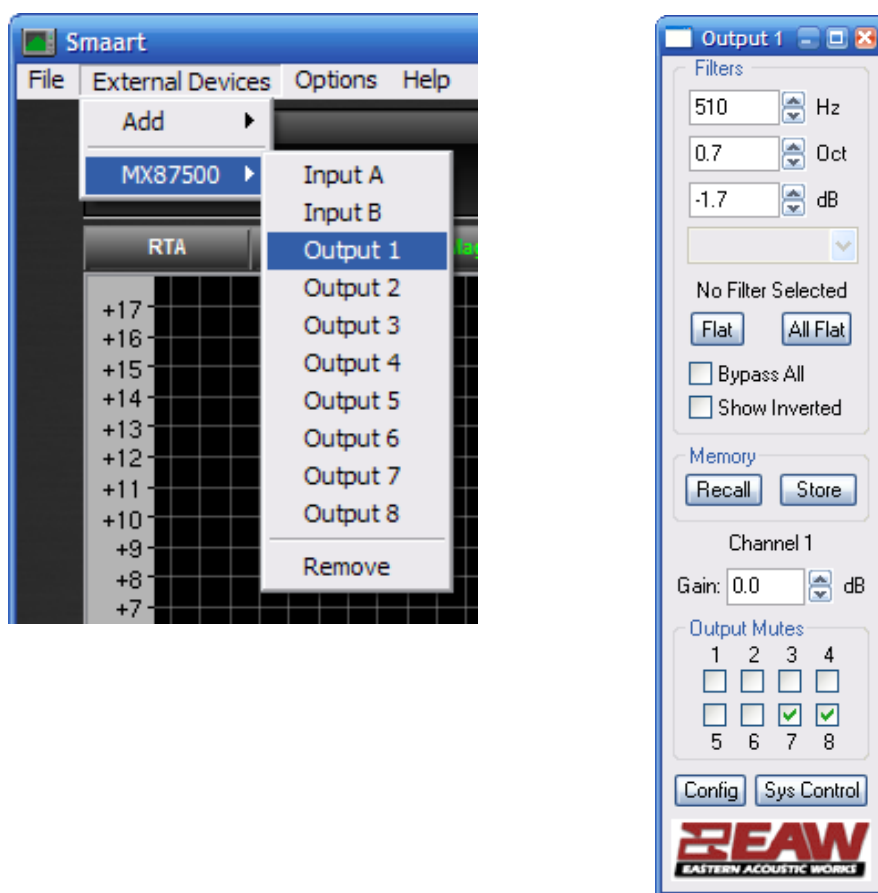

Figure 5-2 Selecting (left) and configuring (right) a newly added external device input
2. Type a name for the device in the **Device Name** field. This name appears in the **External Devices** menu after configuration (left of Figure 5-2).
3. Type names for the inputs/outputs in their **Name** fields, and check the boxes for the inputs/outputs that you wish to appear in the device's flyout menu (left of Figure 5-2).
5. Select an input or output to control from the **External Devices** menu (left of Figure 5-2). A floating control dialog for the selected channel appears, like the one on the right of Figure 5-2. The position of all filters currently available on the selected device channel should now be indicated by markers on the Magnitude plot.
Remove a device by selecting **External Devices->Device Name->Remove** (see left of Figure 5-2). The device is removed from the **External Devices** menu.